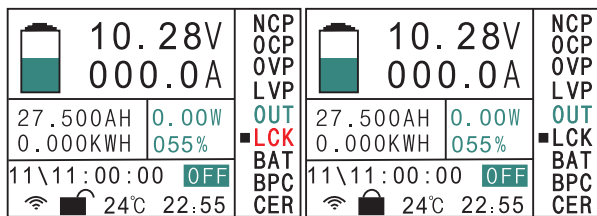

Figure 4-6
6). "**LCK**" Key lock control, move the cursor to this option, click the **OK** key to select this option, click the \downarrow key to lock the key as shown in Figure 4-6, if locked, all the keys cannot work, only long press the **OK** key for more than 10S can be unlocked, shown in Figure 4-6.